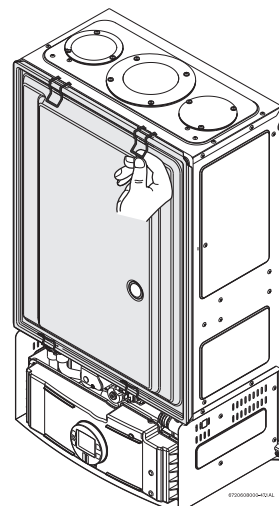

Fig. 5 Remove the combustion cover
- ▶ Open the four clips and remove the combustion cover (see Fig. 5).